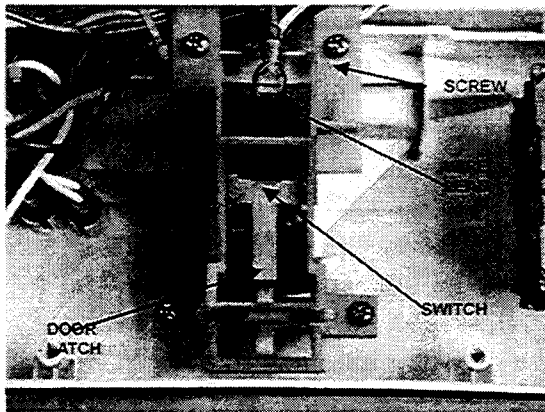

Figure 5
3. Remove wire leads from door latch and remove screws securing door latch assembly to inner door. (See Figure 5.)